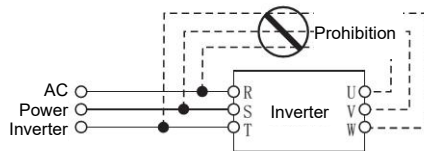

Figure 1-2
- It is forbidden to connect the AC power supply to the output terminals U, V and W of the inverter, otherwise the inverter will be damaged, as shown in Figure 1-2.